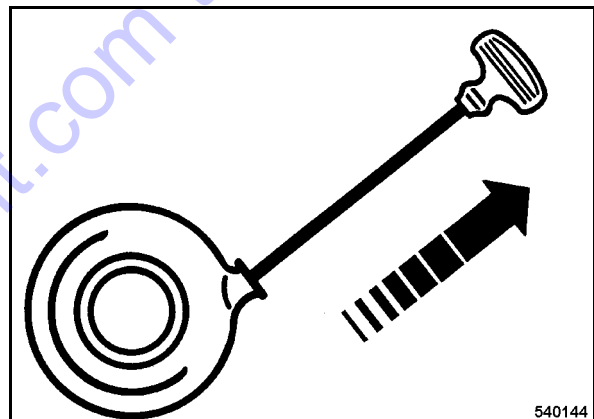

Fig. 16
- Pull the starter handle quickly and with power (Fig. 16).